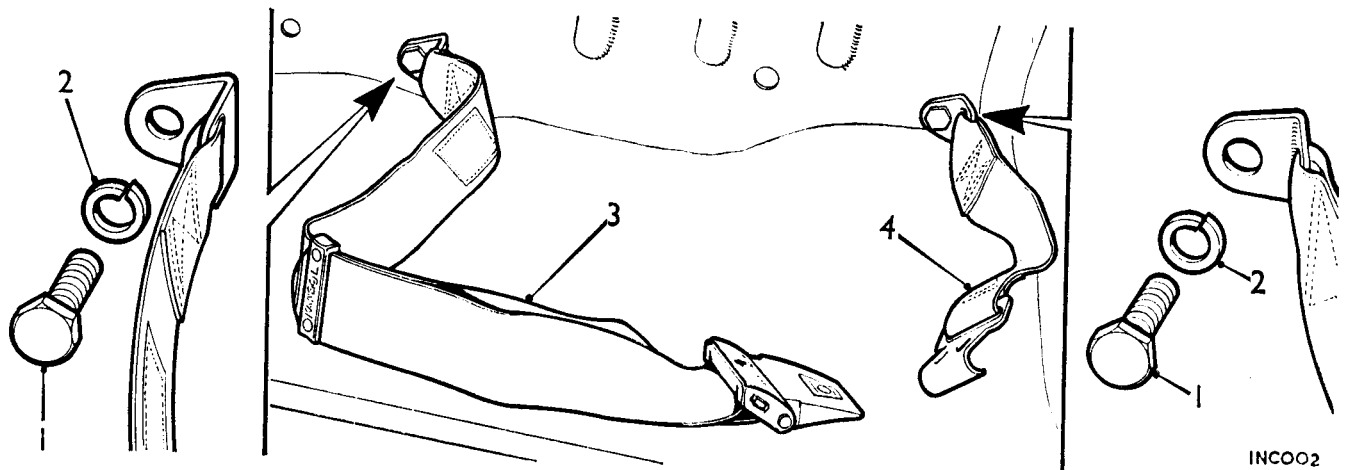

Fig. Rb.16
2. Remove the belt bracket retaining screws (1) with their spring washers (2), see Fig. Rb.16.
3. Reverse the order of the removing procedure, noting that the longer section of the belt is fitted to the fixing point nearest to the centre line of the car, see Fig. Rb.16.
4. Ensure that a spring washer is fitted under the head of each bracket retaining screw; align the brackets as shown in Fig. Rb.16 and tighten the retaining screws to a torque figure of 25 lb. ft. (3.5 kg. m.).